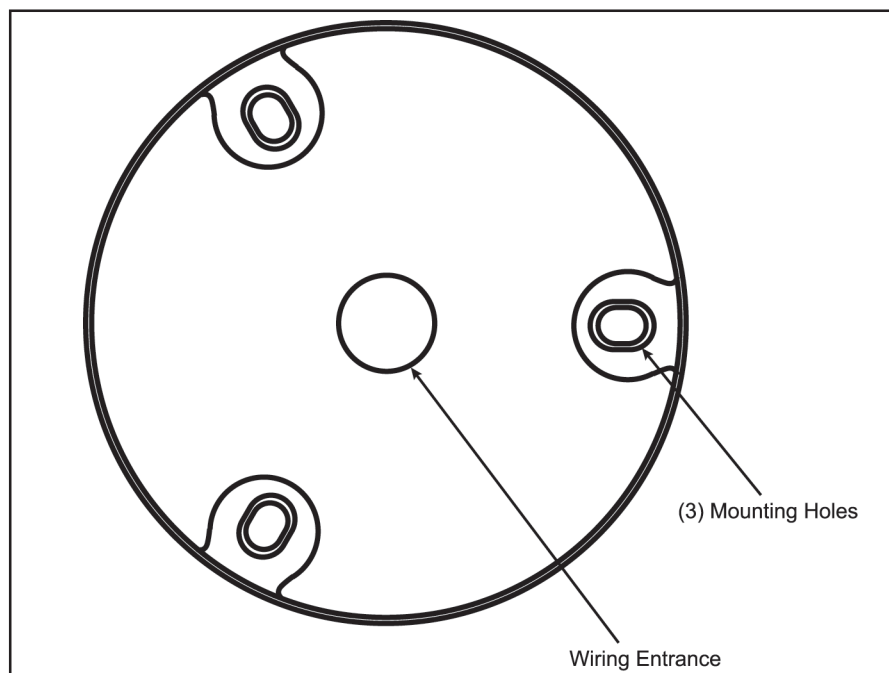

Figure 1. Surface Mount Template
- a. Using Figure 1 as a guide, mark the three mounting holes and the center wiring clearance hole on the mounting surface.